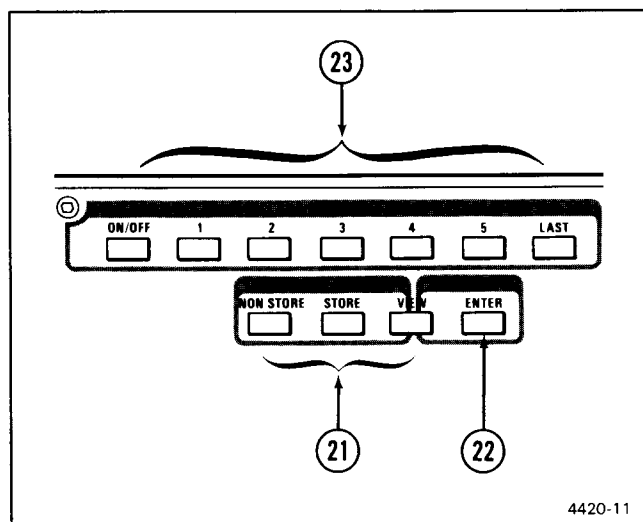

Figure 2-9. DISPLAY MODE and MENU controls.
Refer to Figure 2-9 for location of items 21 through 23.